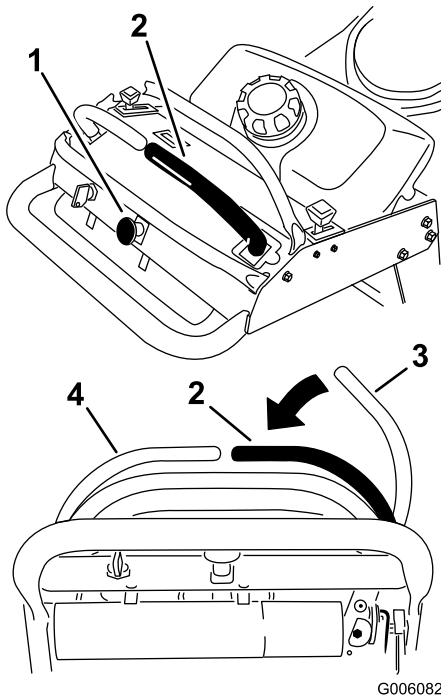

Figure 6
1. To engage the mower blades, move the right side motion control lever to the center, un-locked position (Figure 6).